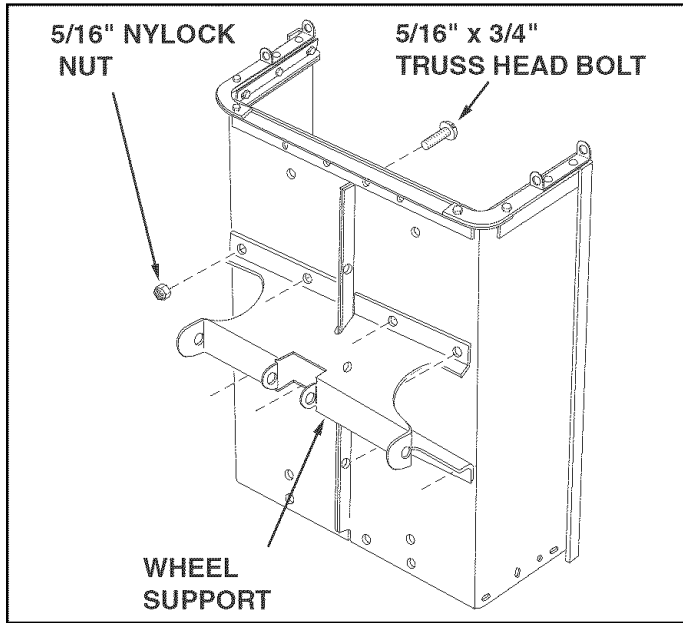

FIGURE 4
- Assemble the wheel support to the bottom of the cart using eight 5/16" x 3/4" truss head bolts and 5/16" nylock nuts as shown in figure 4. Heads of bolts go on the inside of cart. **Tighten**.